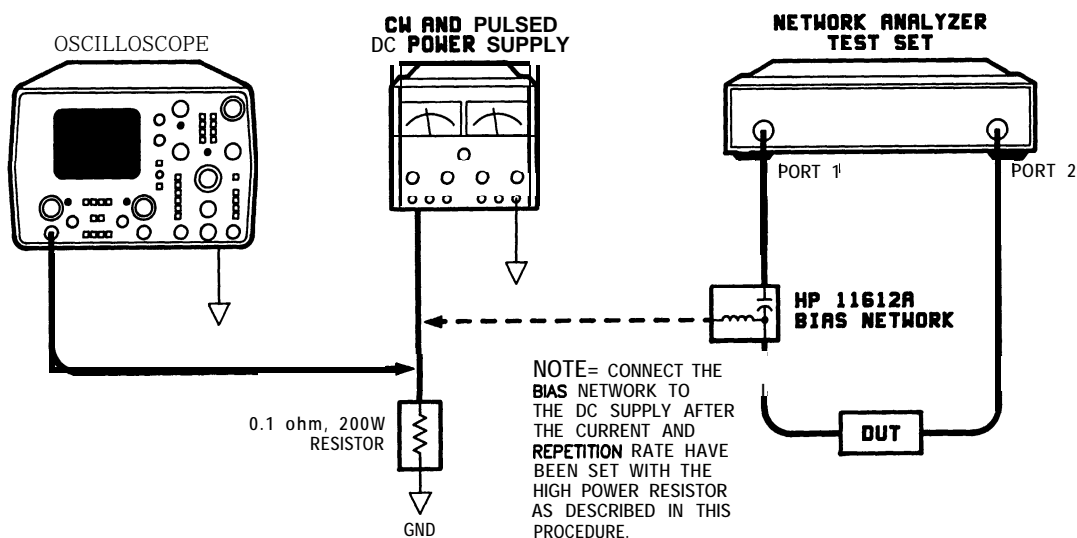

Figure 4. HP 11612A Option 001 Bias Level Setup
1. Connect the equipment as shown in Figure 4; do not connect the bias network yet.